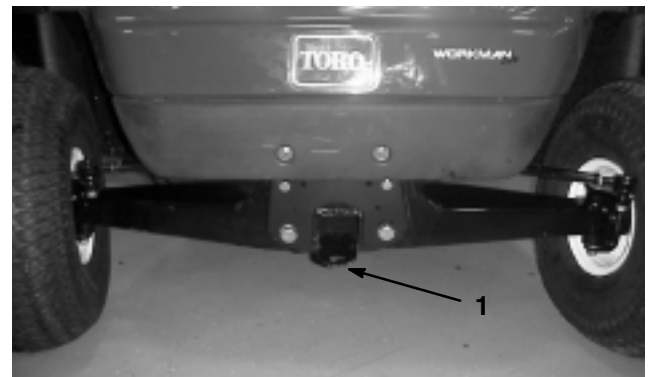

Figure 22
2. Affix a tow line to tongue on front frame member (Fig. 22).